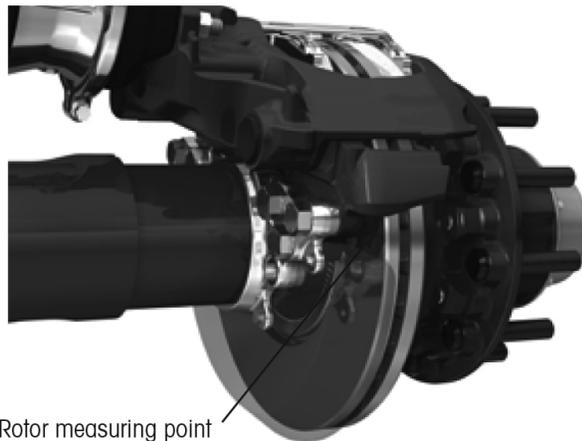
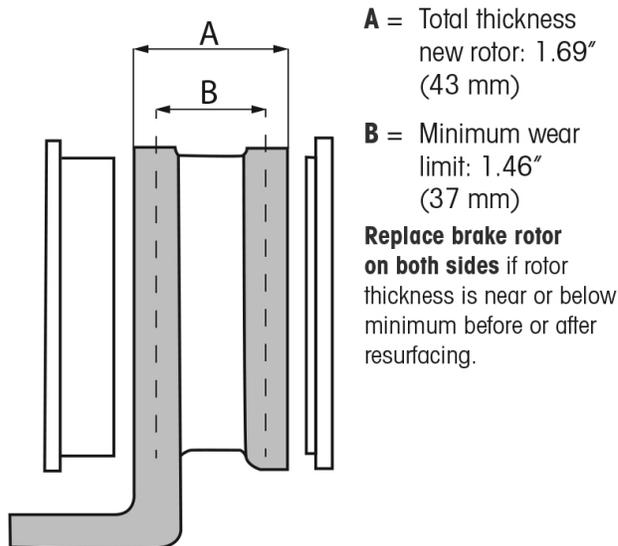
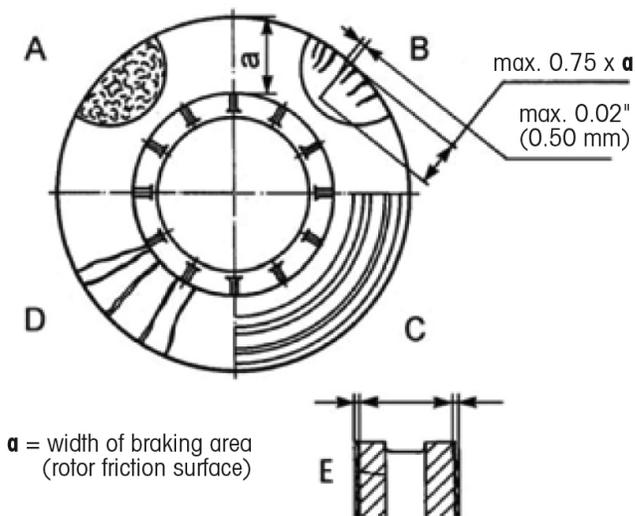

Figure 9: *Measuring rotor thickness*
Figure 10: Rotor thickness
Figure 11: Rotor condition analysis
1. **Measure** brake rotor thickness at the braking area (friction surface) at 3 points, 120° apart. Refer to Figure 9, Figure 10 and Figure 11 for rotor condition examples and measurements.
2. **Check** the brake rotor for cracks and the condition of the friction surface (Figure 11).
3. **Replace** the brake rotor or have it properly resurfaced if the brake rotor runout is more than 0.006" (0.15 mm). Also replace if, after resurfacing, the thickness is below minimum (Figure 10 on page 12).